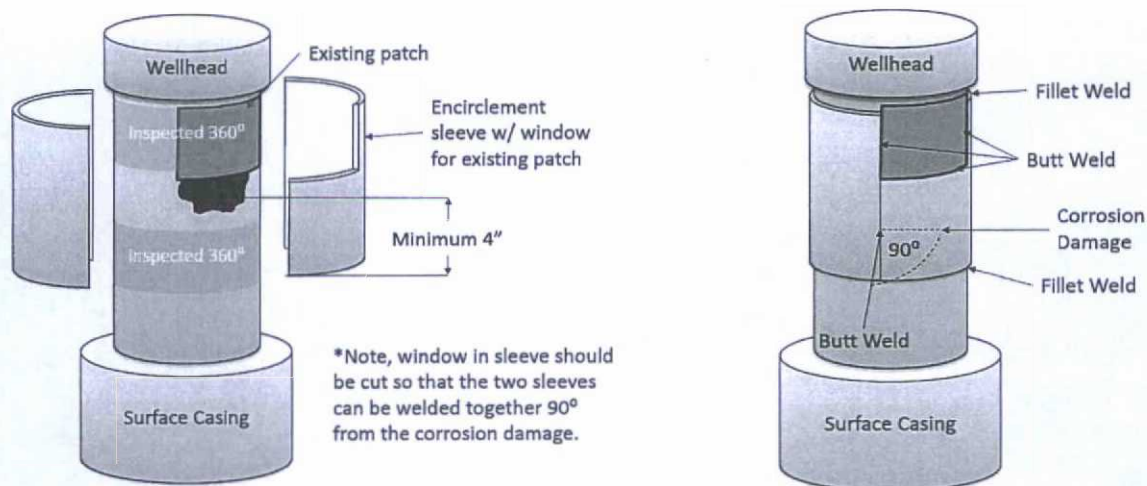

Figure 1: Before and after welding encirclement sleeve.
6. Prepare the type B full encirclement steel sleeve pieces as necessary to cover the extent of the corrosion damage. The sleeve should entirely cover the corrosion damage and be long enough to weld to the previously inspected portions of the intermediate casing. These sleeves should also fit the OD of the intermediate casing well enough to allow fillet welding from the sleeves to the intermediate casing around the top and bottom. A window should be cut in the sleeve(s) to allow them to be butt welded to the existing patch on the intermediate casing. The sleeve should extend at least 4 inches above and below the hole. (See figure 1)